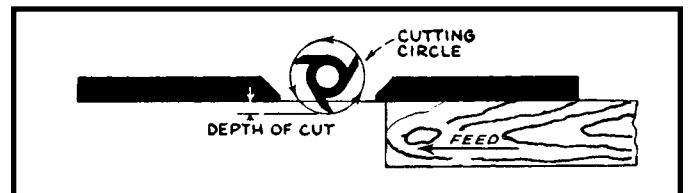

Fig. 36
1. For average work, where a portion of the original edge of the work is not touched by the cutter, both the front and rear fences are in a straight line, as shown in Fig. 36.